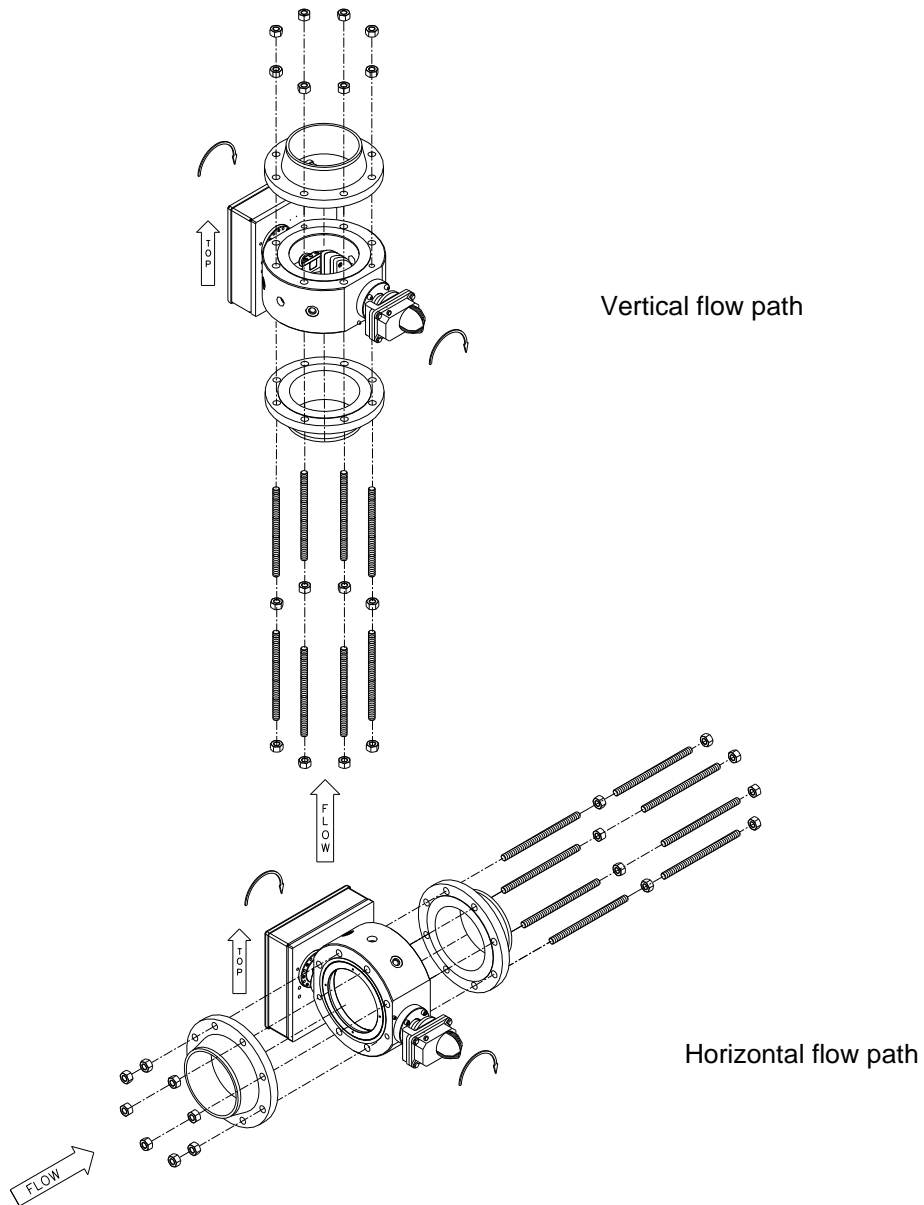

Figure 5. Typical Installation
NOTE: Figure 5 illustrates a “Vertical Flow Path” and a “Horizontal Flow Path” respectively.
- Place the BPRV valve body in between companion flanges as shown in Figure 5. Make certain that the flow arrow on the body and the orientation arrow in the mechanism are correctly orientated as shown in Figure 5.